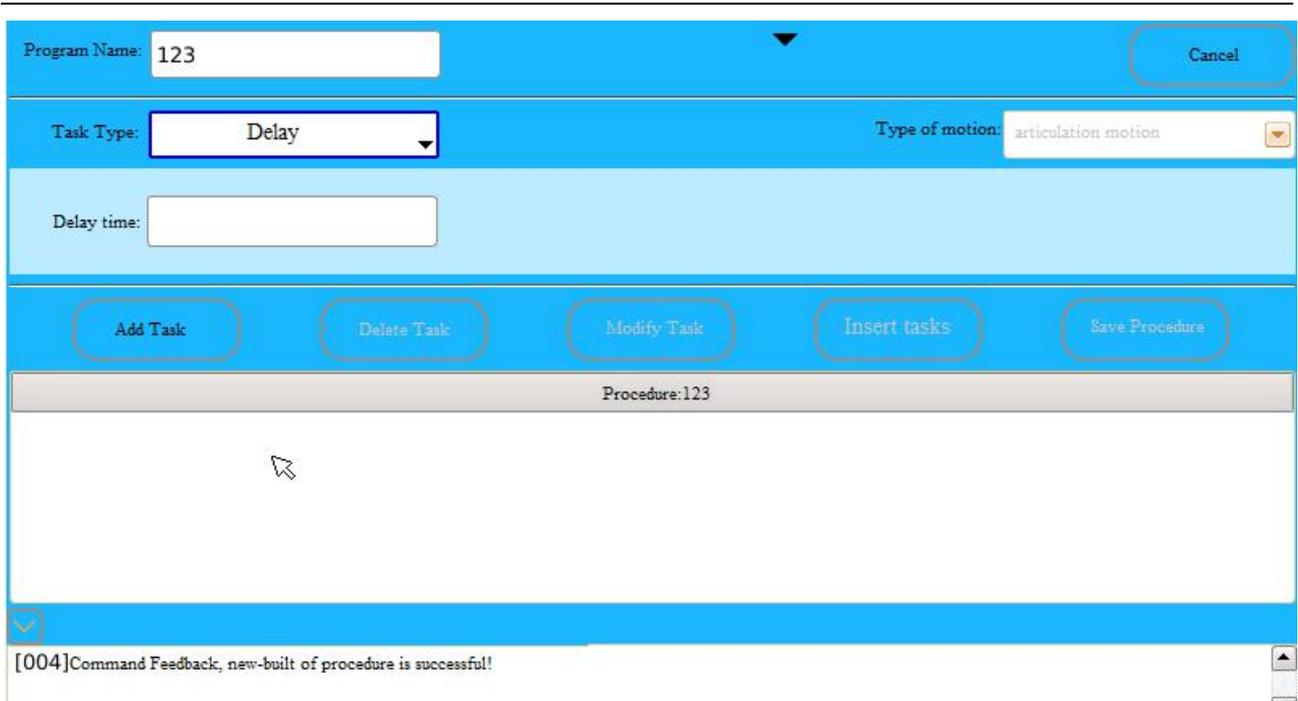

Fig. 4.7 “Time Delay” Task Types
(6) **“Time delay” task type** — when the “Time delay” task type is selected, enter a number at the “Delay time” in milliseconds, and click “Add task”, as shown in Fig. 4.7.